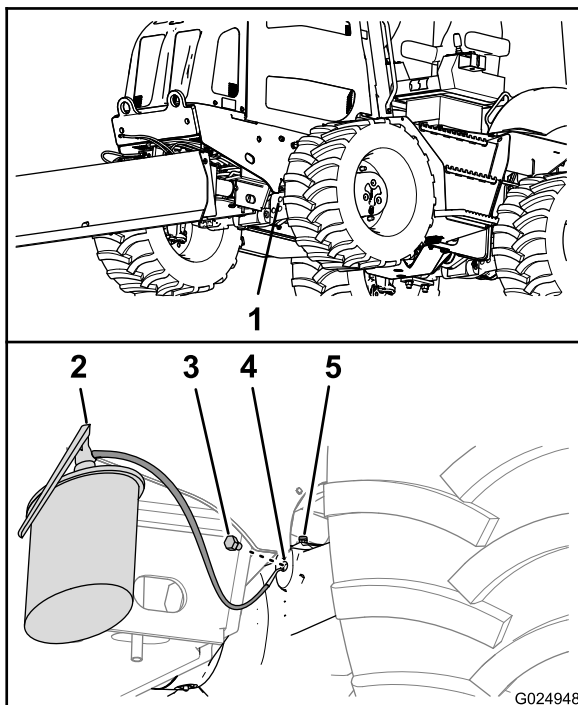
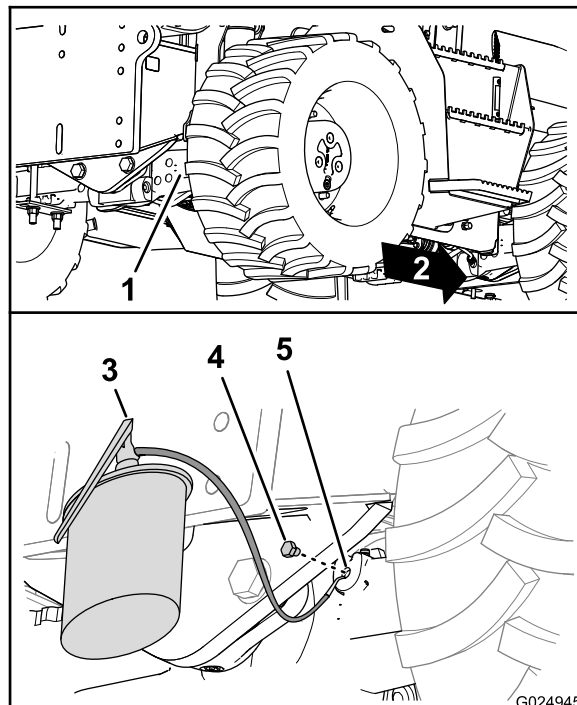

Figure 90
Figure 91
- Install the drain plugs into the drain ports at the pinion housings (Figure 90 and Figure 91).
6. Fill the axles with the specified oil through the sight port until the oil is level with the threads at the bottom of the port (Figure 90 and Figure 91).
8. Install the fill plugs into the sight ports of the pinion housings for the axles (Figure 90 and Figure 91).